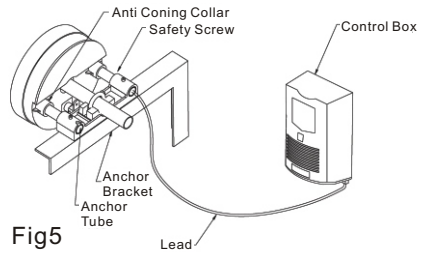

Fig 5
- o. Slide anti-coning collar over each end of spindle at the opposite side of the door to the motor so that it is flush with the edge of the split ring. Secure anti-coning collar tightly to ensure it will not move. (Fig. 5)
- p. Push the anchor tubes through the anchor block and slide the assembly over the wall bracket. Thread the drive unit loom through the anchor tube and place the anchor tube firmly into the female boss on the main body. Once in place, lock the anchor tube and block it with the self-tapping screw provided. (6 3/8) (Fig. 5)